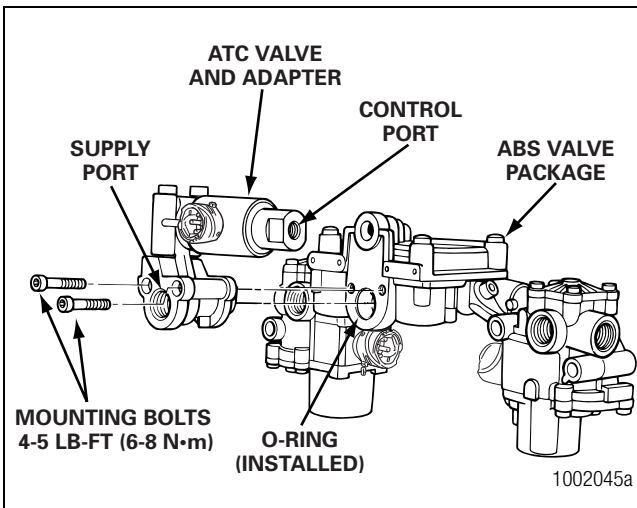

Figure 4.12
5. Use the two M6 Allen-head bolts to attach the adapter to the relay valve. Use a 5 mm Allen-head tool to tighten to 4-5 lb-ft (6-8 N•m). Figure 4.12.